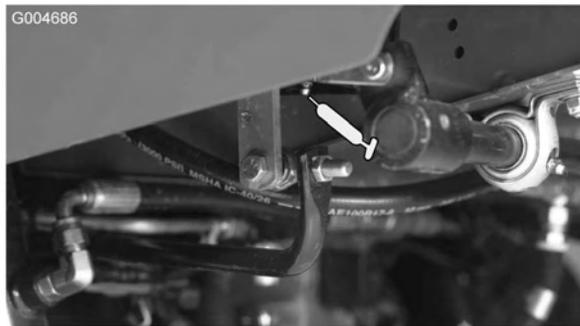

Figure 34
- Traction pedal pivot bushing (1) (Figure 34)